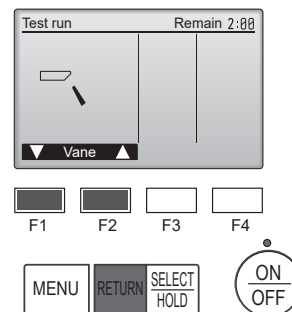

Fig. 7-6
- ① Check the auto vane with the [F1] [F2] buttons. (Fig. 7-6)
- ② Press the [RETURN] button to return to "Test run operation".
- ③ Press the [ON/OFF] button.